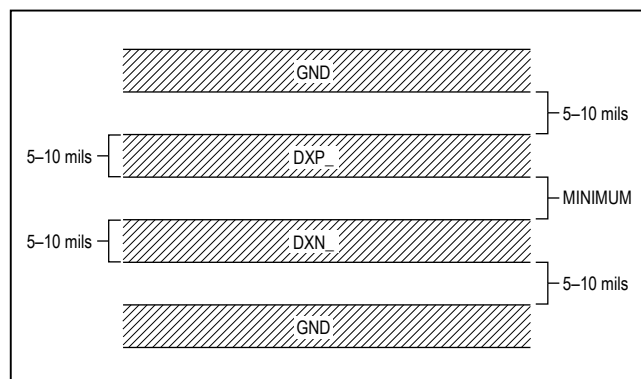

Figure 5. Recommended DXP_ - DXN_ PCB Traces
- 3) Route the DXP_ and DXN_ traces in parallel and in close proximity to each other. Each parallel pair of traces should go to a thermal diode. Route these traces away from any higher voltage traces, such as +12V_{DC}. Leakage currents from PCB contamination must be dealt with carefully since a 20MΩ leakage path from DXP_ to ground causes approximately +1°C error. If high-voltage traces are unavoidable, connect guard traces to GND on either side of the DXP_ - DXN_ traces (Figure 5).